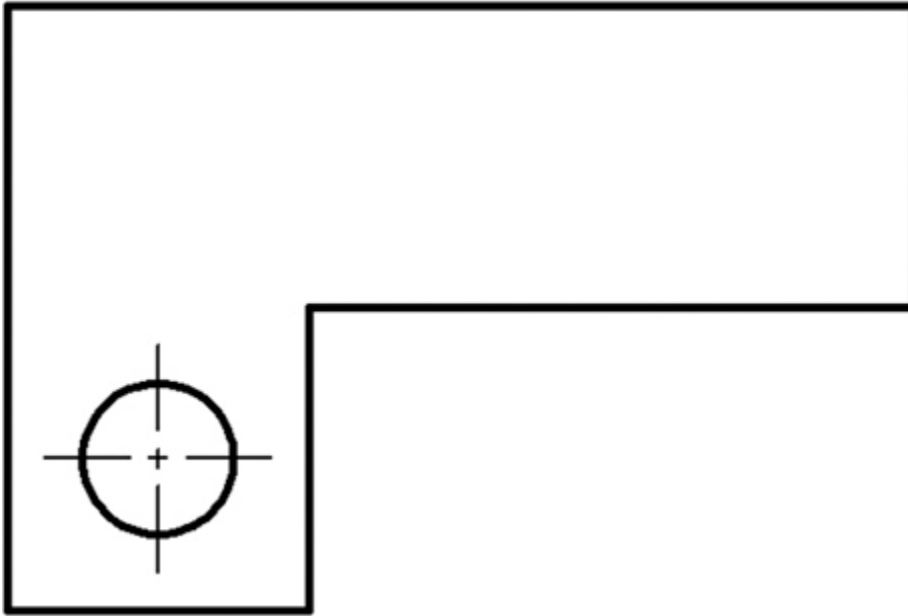

Figure 2-26
- 7 Press **<Esc>** to end the **LINE** command. Your drawing should now resemble Figure 2-26.